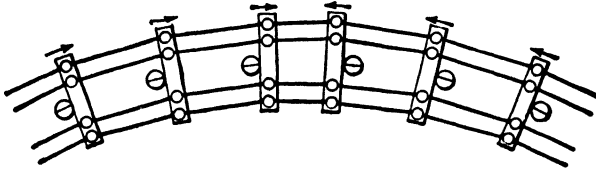

FIG. 11-36. Facing crossarms on curve. Note that the three poles on each side of the center of the curve face the curve.
**Curves.** Crossarms on poles on each side of the center of a curve should face the center of the curve (Fig. 11-36). The pole at the center of the curve is often equipped with double arms.